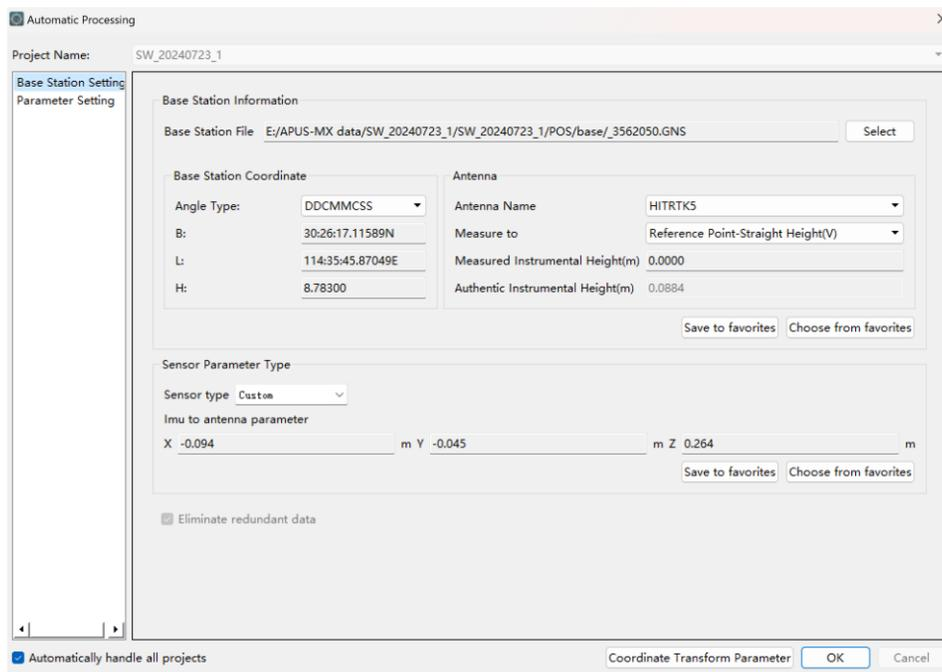

Figure 3-39 Automatic processing dialog box
- (1) Copy the original data collected by the equipment to the computer.
- (2) Create a new combine project.
- (3) Click <Aircraft> → <Auto Process> to enter the automatic processing interface (Figure 3-39).